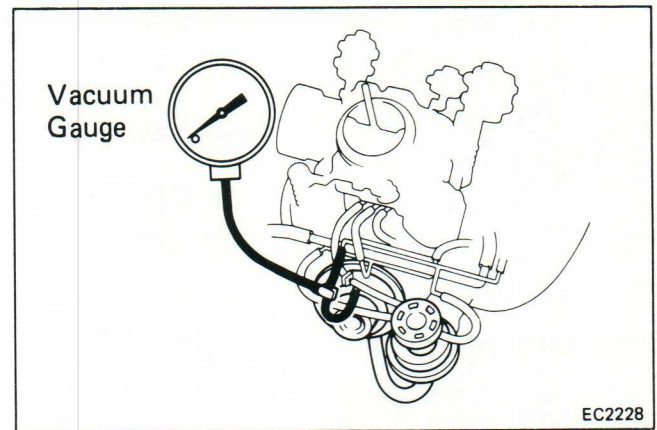

Figure 246-6
1. **Preparation.** Using a 3-way connector, connect a vacuum gauge to the hose between the EGR valve and vacuum pipe (Figure 246-6).